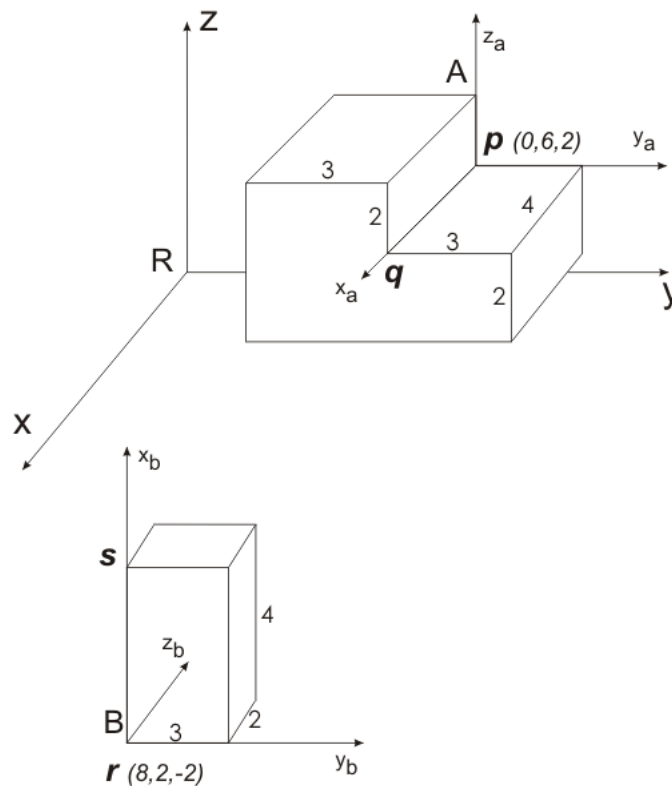

Figure 3: Assembly elements
2. Consider two objects in the Cartesian space (Fig. 3). The reference (fixed) coordinate system is denoted with "R" and the object "A" is considered fixed. The initial coordinated of points "p" and "r" are related to the fixed coordinate system "R".